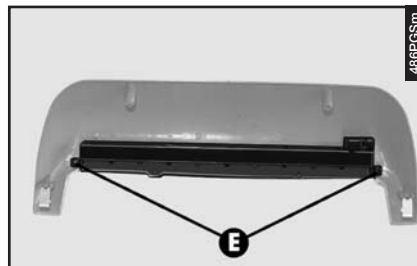

fig. 65
- Slacken the two screws (**E**-fig. 65) and separate the light unit from the cover.
- Refit the cover on the light unit and fasten it with the screws (**E**-fig. 65).